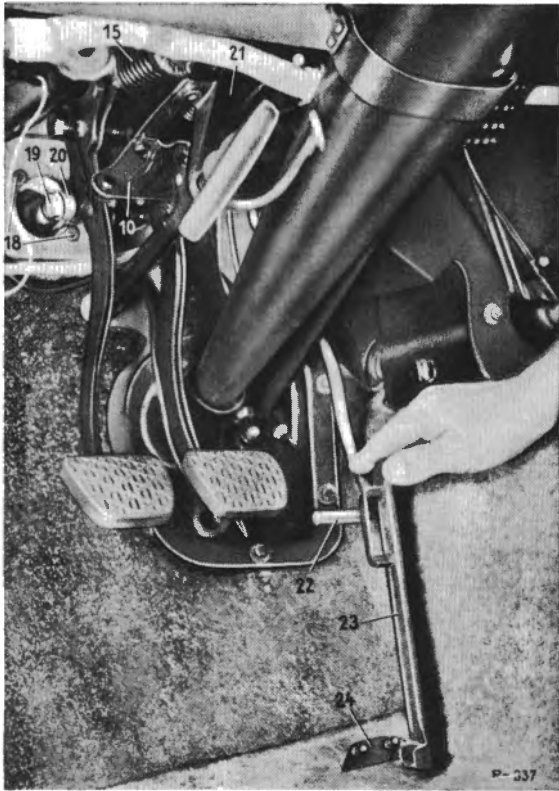

Fig. 29-1/1
2. Unscrew the bearing bracket (21) for the ratchet from the support (Fig. 29-1/1).